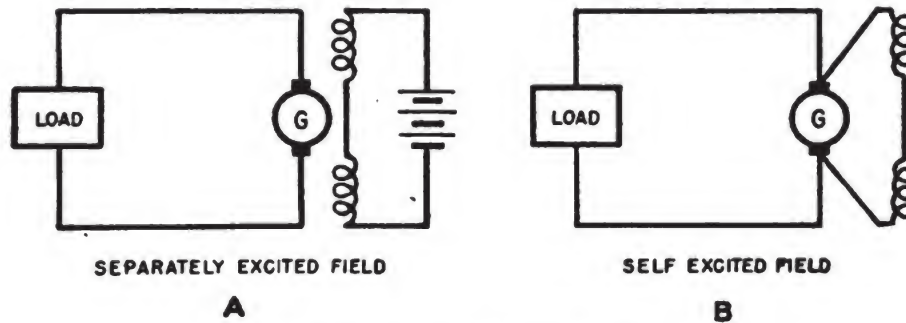

Figure 136.—Field windings.
In (A) of figure 136 you have a single-loop armature with an electromagnetic field whose current is supplied by a battery. You call this field a SEPARATELY EXCITED FIELD. But this type of field is used only for scientific research. The voltage obtained from the generator is d. c. Hence a part of the output current can be diverted to the field
windings to excite the field. The generator is the SELF-EXCITED, as in (B) of figure 136.